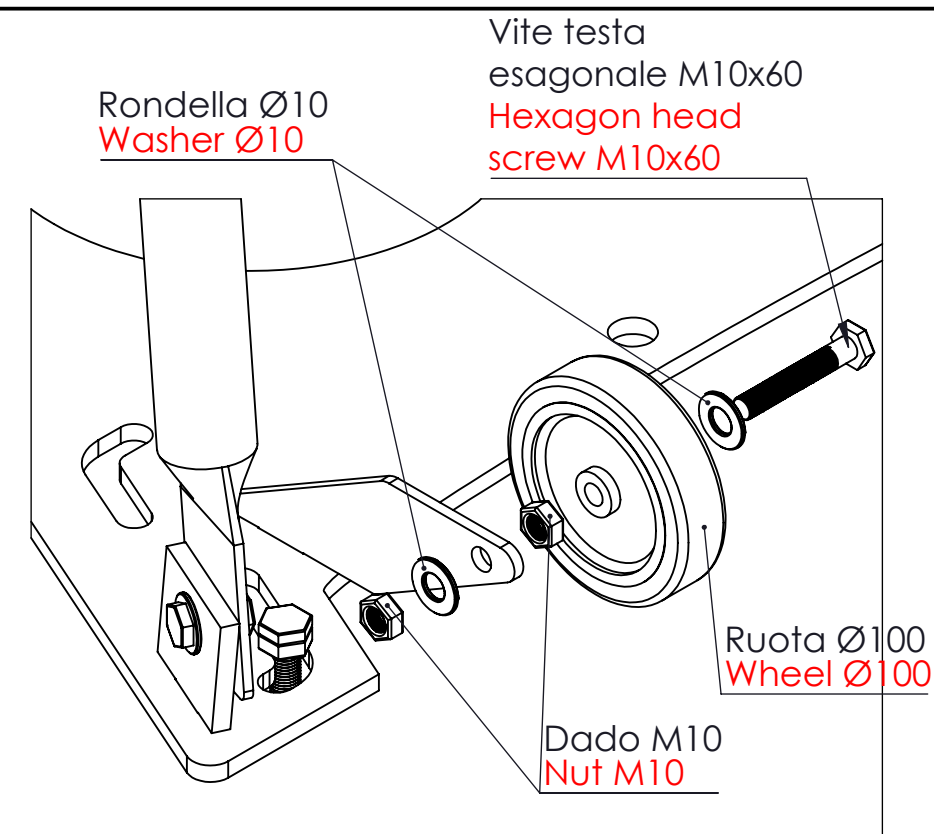

FIG. 4
5. Fit the wheels using the M10x60 hexagon head screws, inserting washers and M10 nuts as shown in Figure 4, and fully tighten all fastenings.